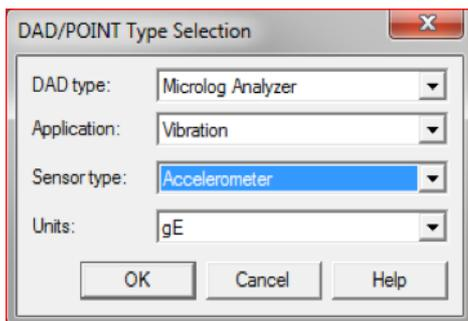

Figure 6. Select the DAD type and application.
- Select “Microlog Analyzer” as the **DAD type** and “Vibration” as the **Application (Figure 6)**.